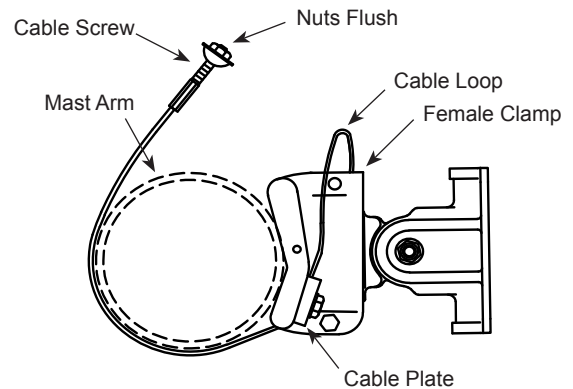

Figure 1
1. Loosen the two (2) 7/16" bolts on each cable plate.
2. Adjust the nuts flush to the top of the cable screw as shown. (Figure 1)
3. Feed the wiring from the mast arm through the center of the clamp kit and position on the mast arm as desired. (Figure 1)